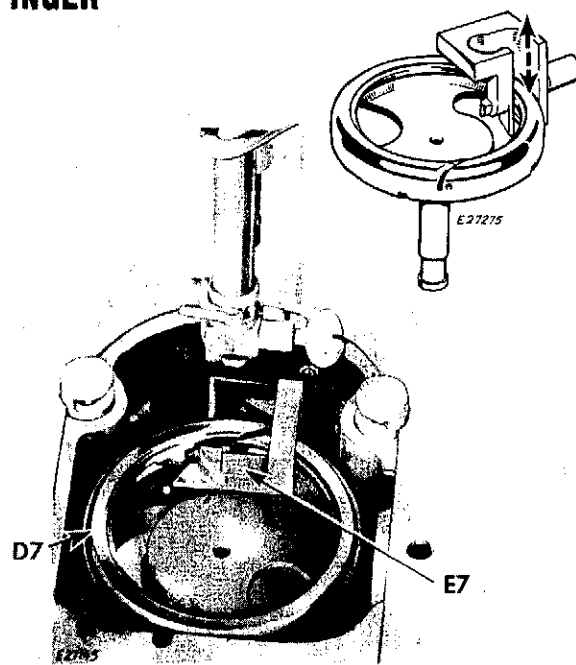

Fig. 316. Rotating Hook
7. Remove rotating hook assembly D7, Fig. 316.
8. Remove position finger from hook, as shown in inset at top right corner of Fig. 316. **Keep position finger away from hook point.**
1. Install position finger E7 on hook, as shown in Fig. 316. Slide position finger down and around ring on hook at point shown in inset at top right cor-
ner of Fig. 316 keeping it away from hook point. Then move position finger to correct position at E7, Fig. 316.
2. Install rotating hook assembly D7 with position finger E7, as shown in Fig. 316.